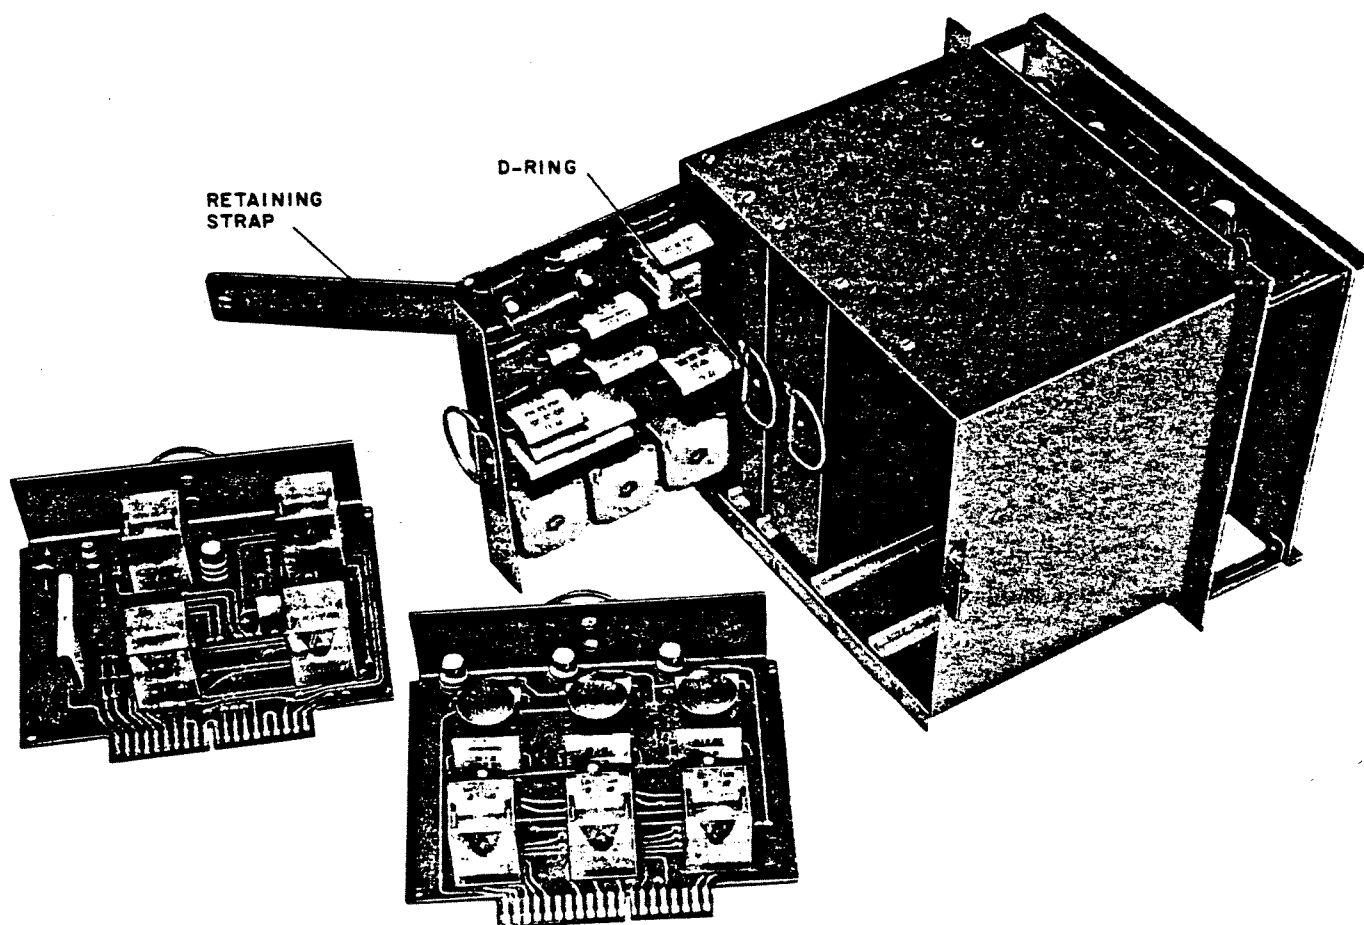

Fig. 3—247B KTU, Circuit Pack Removal
**5.02** To replace circuit packs (Fig. 3):